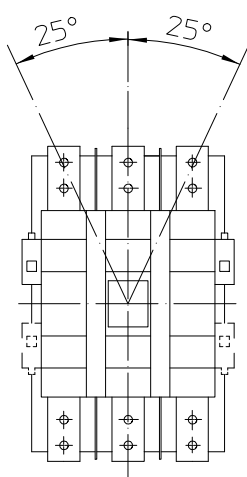

Fig. 1
I fusibili Ø 0,5mm per tensione 420...690V sono montati di serie. Per tensioni diverse montare (vedi Fig.1), i fusibili indicati in tabella. Una serie di fusibili e' allegata al contattore.
Fuses Ø 0,5mm for voltage 420...690V are fitted as standard. For other voltages fit (see fig.1) the fuses according the table above. A set of fuses is enclosed with the contactor.
- Fix on a vertical panel by 4 screws M12 or equivalent with flat and spring washers to prevent unscrewing. Screws and washers are not supplied with the contactor. Working position is shown in figure 1.
- Svitare i gruppi di ritegno camere spegniarco (fig.1) quanto basta per ruotarli di 90° (fig.2).
- Unscrew the arc-chute fasteners (fig.1) far enough to rotate them 90° (fig.2).